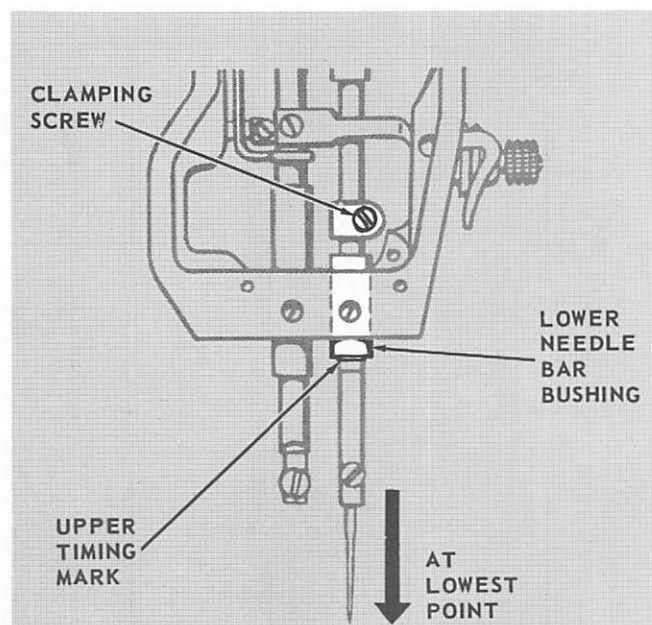

Fig. 43. Setting Needle Bar at Correct Height on all Machines, except 281-22 and 281-24
**ALL OTHER MACHINES:** Turn machine pulley slowly until needle bar is at its lowest point. Loosen needle bar clamping screw, shown in Fig. 43, and raise or lower needle bar, as required, to bring UPPER TIMING MARK level with bottom of lower needle bar bushing, as shown in Fig. 43. Securely tighten clamping screw.